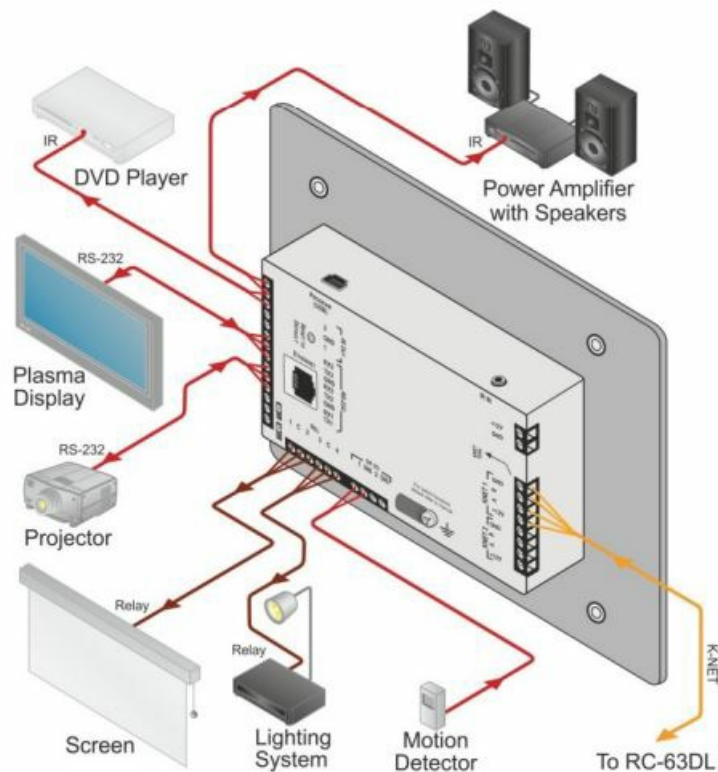

Figure 3: Connecting the RC-74DL Master Room Controller
To connect the RC-74DL, as shown in Figure 3 do the following:
5. Connect the Ethernet port to a network (not shown in Figure 3).